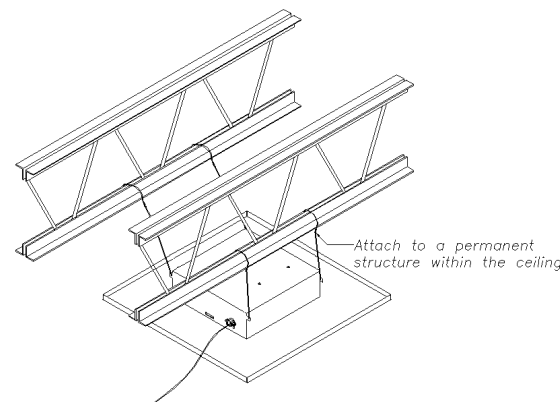

Figure 3
Step 3 – Use minimum 12-gauge support wire (included) to support the backbox independently of the ceiling grid. Attach one end of the wire to the support wire tabs located along the edge of the back box and the other end to a permanent supporting structure within the ceiling such as a ceiling joist (Ref. Figure 3).